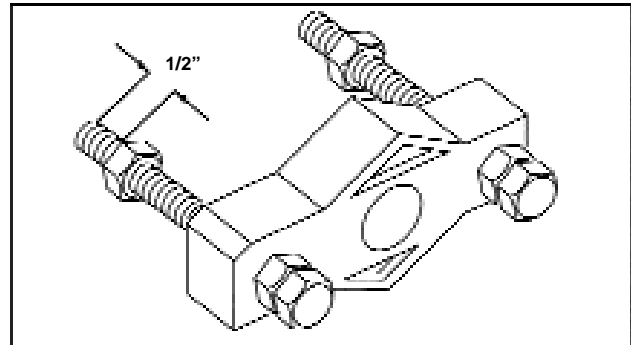

Figure 62 - New Style Flywheel Puller
1. Remove blower housing by removing four (4) screws securing housing to engine case.
2. Use flywheel holder (CPC part #95900-96) to hold flywheel from turning, Figure 62.